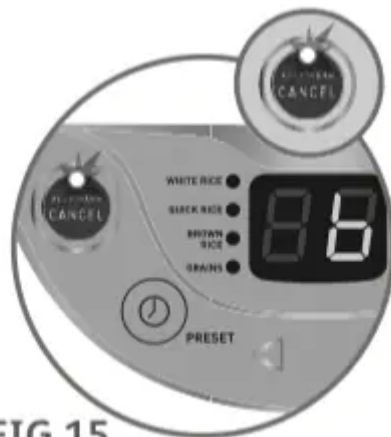

FIG.15
- After cooking, the "Keep Warm" indicator light will turn on and beep several times and the digital screen will display "b", indicating it's time to open the lid and serve the food – Fig.15.
- After the countdown, the "Keep Warm" indicator light will turn on and the cooker will beep for several times and the digital screen will display "b". Open the lid ; stir the rice with the rice spoon to separate grains. The cooked rice can either be served immediately or kept warm for a proper duration – Fig.15.
- After the countdown, the "Keep Warm" indicator light will turn on and the cooker will beep for several times and the digital screen will display "b". Open the lid ; stir the rice with paddle to avoid lumping. The cooked rice can either be served immediately or kept warm for a proper duration – Fig.15.
- After simmering, the "Keep Warm" indicator light will turn on, the buzzer will beep several times and the digital screen will display "b". The cooker will enter "Keep Warm" phase – Fig. 15.
- After simmering, the "Keep Warm" indicator light will turn on, the cooker will beep for several times and the digital screen will display "b". Open the lid ; stir the grains with paddle to separate the grains. The cooked grains can either be served immediately or kept warm for a proper duration – Fig.15.
- At the end of the countdown, the "Keep Warm" indicator light will turn on, the cooker will beep several times and the digital screen will display "b". The cooker will enter "Keep Warm" status – Fig.15.
- At the end of the countdown, the "Keep Warm" indicator light will turn on, the cooker will beep several times and the digital screen will display "b". The cooker will enter "Keep Warm" mode – Fig.15.
- After cooking, the buzzer will beep for several times, the "Keep Warm" indicator light will turn on and the digital screen will display "b", indicating the rice cooker enters "Keep Warm" mode – Fig.15. Open the lid ; the cooked preparation can either be served immediately or kept warm for a short time – Fig.15.
- The dessert function remains on continuously for 45 minutes then the "Keep Warm" function will turn on. After cooking, the buzzer will beep for several times, the "Keep Warm" indicator light will turn on and the digital screen will display "b", indicating the rice cooker enters "Keep Warm" status – Fig.15.
- Press "Keep Warm/Cancel" button while in standby mode, the "Keep Warm/Cancel" indicator light turns on and the digital screen will display "b", indicating the cooker enters keep-warm mode – Fig.15.